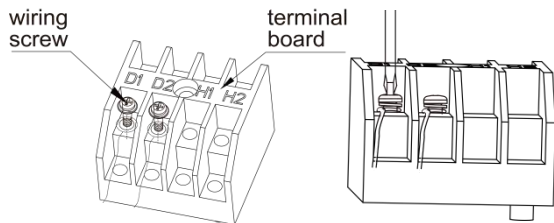

Fig 5.3.1
- (1) Open the cover of electric box on indoor unit.
- (2) Lead the communication line through the rubber ring.
- (3) Connect the communication line to terminal D1 and D2 on the 4-digit wiring board of indoor unit, as shown in Fig.5.3.1.